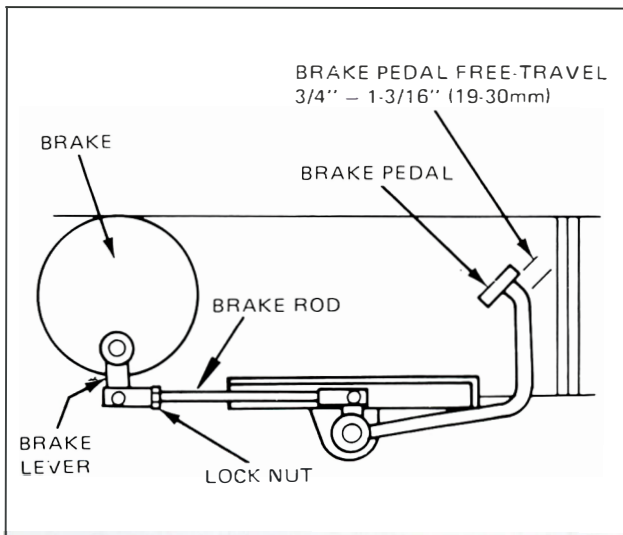

Figure 66 – Brake Pedal Adjustment.
2. Loosen the lock-nut, Figure 66, and rotate the brake rod as necessary until there is 3/4-1-3/16 inch (19-30 mm) of pedal free play. Lengthening the rod increases free play while shortening the rod decreases free play.